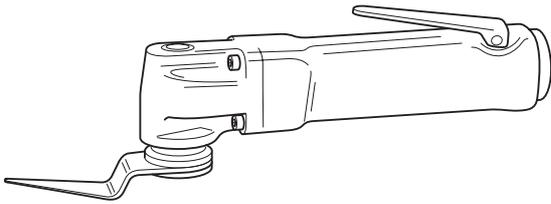

Fig 1. Pneumatic Knife
- a Pneumatic Knife. → Fig 1. \(B-51\). This provides one of the easiest methods of removing the sealant around laminated glass. The tool, powered by compressed air, should be sourced locally.